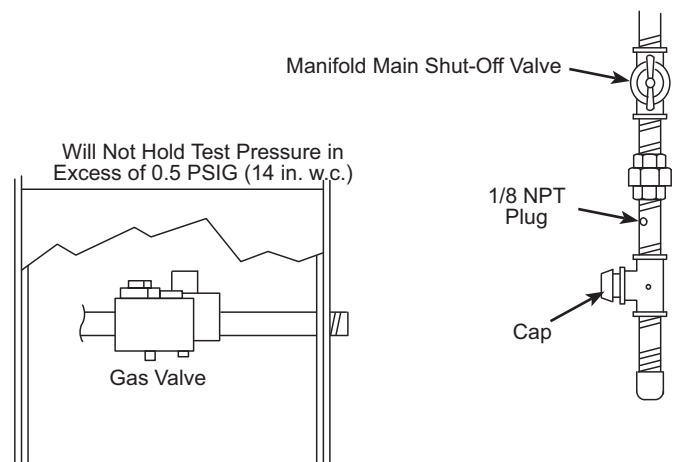

Figure 50.
When pressure testing gas lines, the gas valve must be disconnected and isolated. Gas valves can be damaged if subjected to more than 0.5psig (14 in. W.C.). See Figure 50. If the pressure is greater than 0.5psig (14 in.W.C.), use the manual shut-off valve before pressure testing to isolate furnace from gas supply.
1. A manifold pressure post located on the gas valve provides access to the manifold pressure. See **Figure 50**. Back out the 3/32 Hex screw one turn, connect a piece of 5/16 in. tubing and connect to a manometer to measure supply pressure.